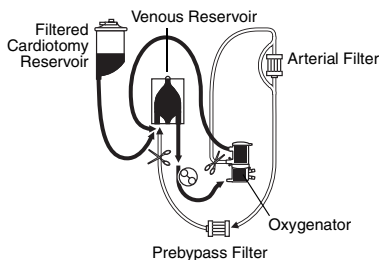

Figure 3.
Recirculation (Refer to Figure 3)
1. After placing tubing into a properly occluded pump raceway, remove clamp from recirculation outlet per Figure 3 to allow recirculation between the oxygenator and venous reservoir.